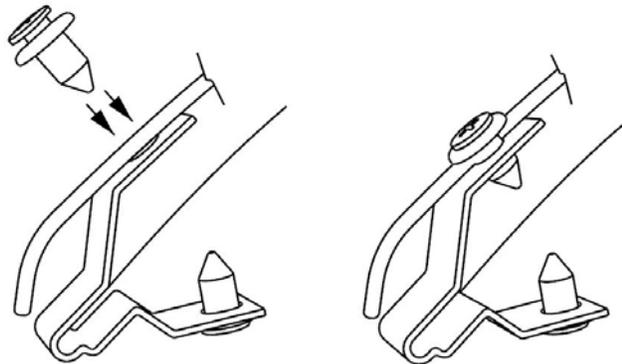

Fig 8
7. Install the hood protector temporarily using the (4) push type retainer on the (4) metal mounting brackets to hold the hood protector in position. (Fig 8)